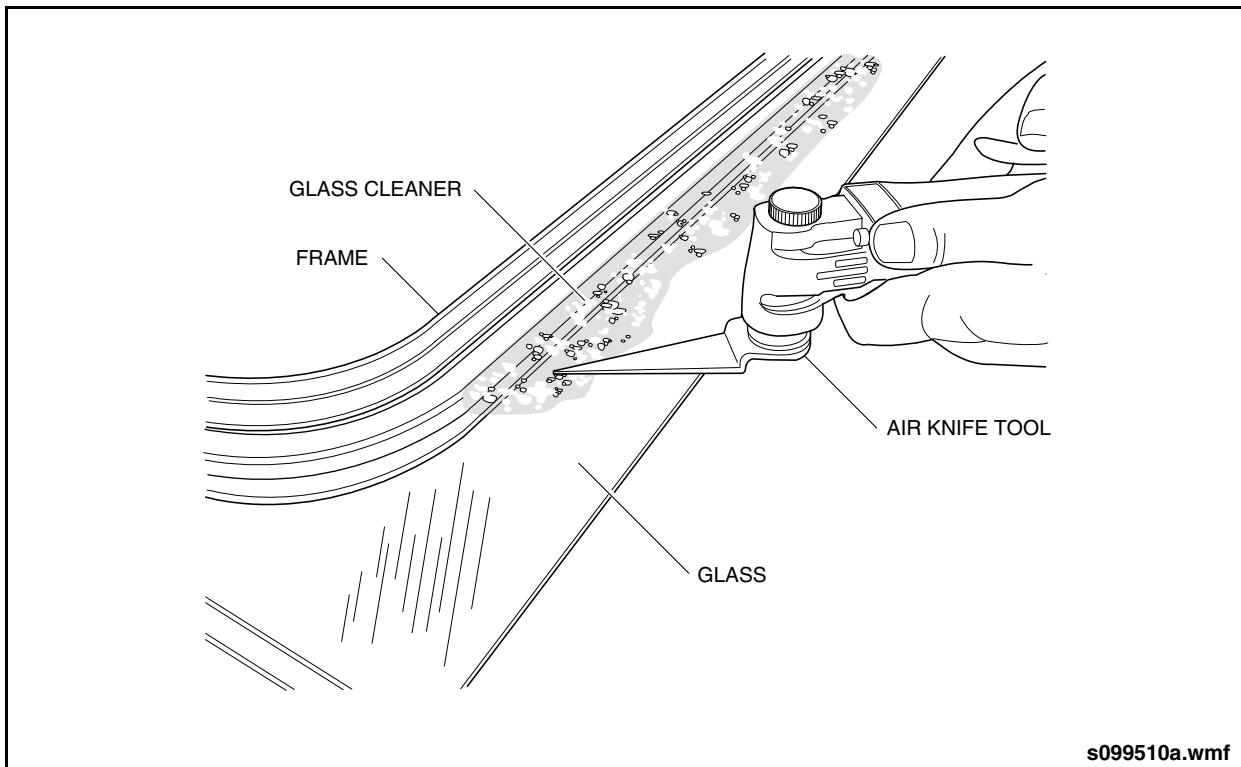

Fig. 14-15: Cutting of Bond Between Frame & Glass
3. Using the air knife with a sharp blade cut the bond between the glass and the frame. See "Fig. 14-15: Cutting of Bond Between Frame & Glass" on page 20. Use glass cleaner to keep the bond wet during cutting.